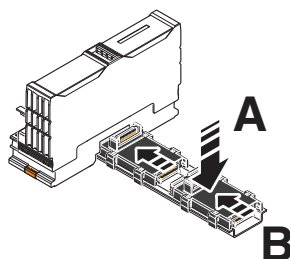

Fig. 7-9 Connecting bus base modules with each other and with the bus coupler
- Place all bus base modules required for the station on the DIN rail (Fig. 7-9, A). Observe the proper orientation of the bus base modules. When mounting on horizontal DIN rails on the wall, the logo must be readable and the laser-engraved arrow should point towards the bus coupler.
- Push the bus base modules into the connection of the bus coupler or the previous bus base module (Fig. 7-9, B).